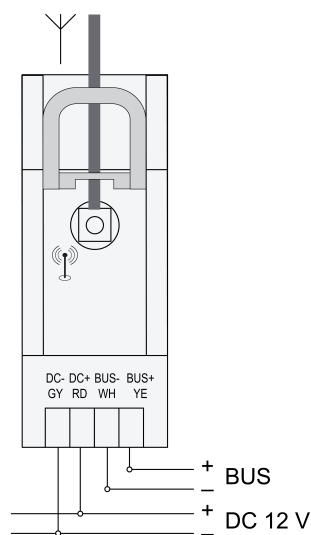

Figure 2: Connection diagram
- Connect the device according to the connection diagram (figure 2).